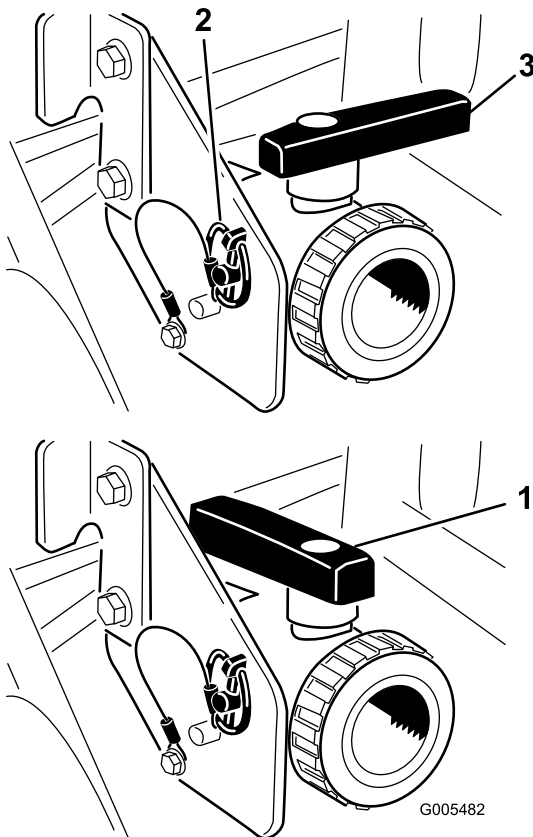

Figure 28
Open the valve to drain any unused material from the tank and dispose of it according to local codes and the material manufacturer's instructions (Figure 28). After draining, remove the lynch pin on the bracket securing the drain valve to the machine and let the valve rest on the ground. This allows any residual material in the line to drain.
3. When the tank has drained completely, install the valve to frame with the lynch pin removed previously and close the drain valve (Figure 28).